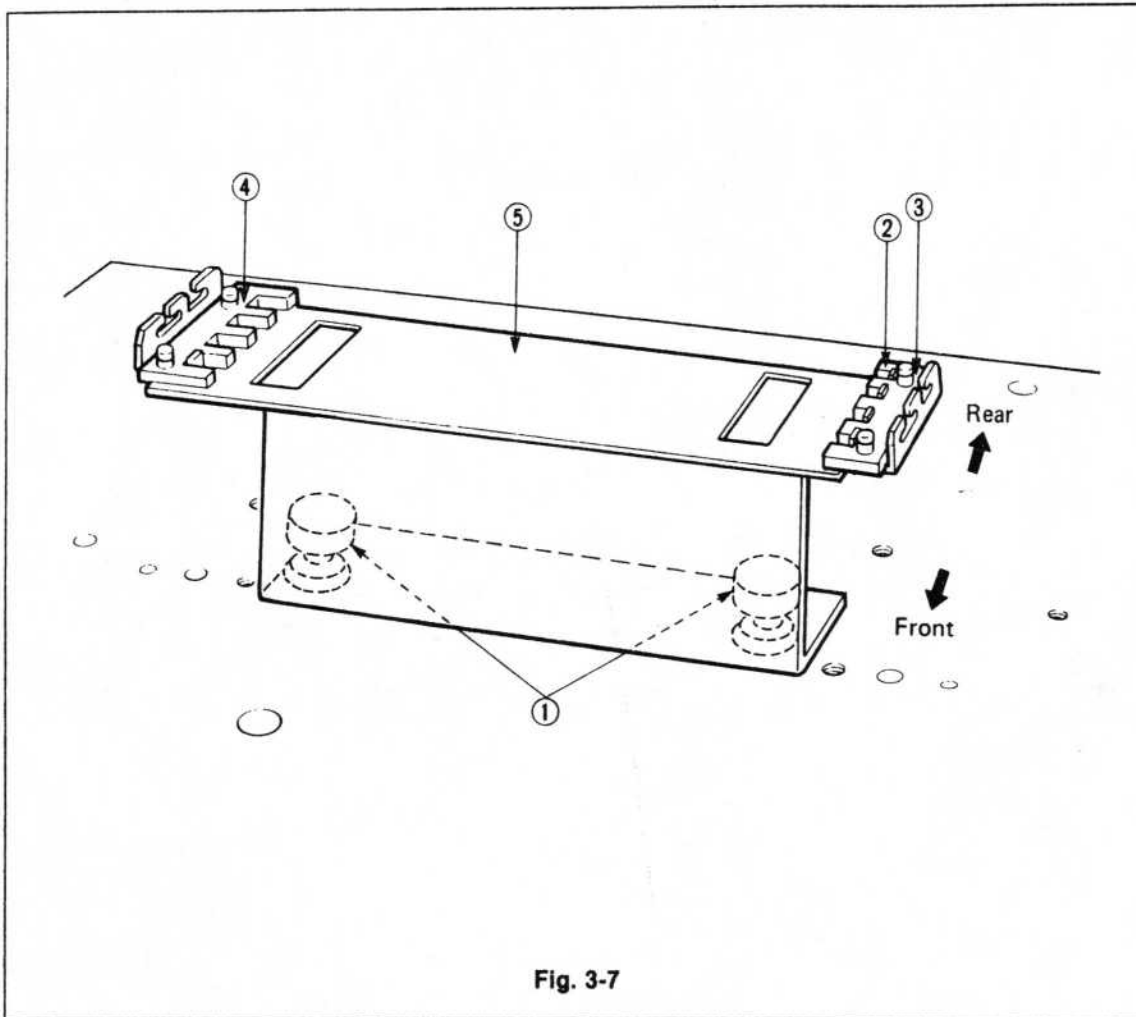

Fig. 3-7
Attach the two handknobs ① to the fixed knock pin holes on the base. (See Fig. 3-7) At this time, attach the magazine pusher ② to the right.